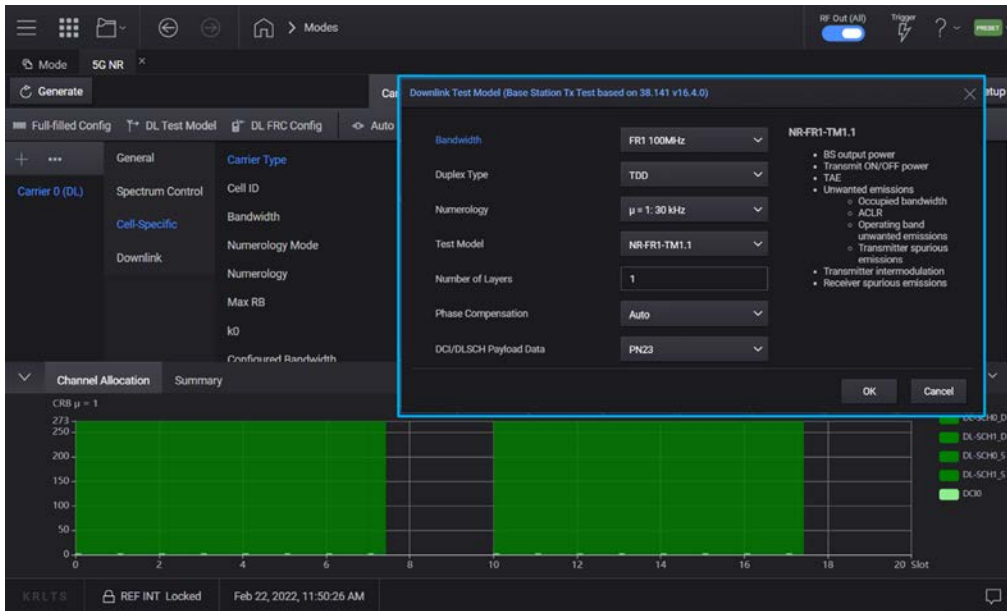

Figure 1. 5G NR downlink TMs configuration using PathWave signal generation software for 5G NR
Figure 1 shows the 5G NR TM1.1 for FR1 unwanted emission, transmitter intermodulation, and receiver spurious emission tests. A graphical display for the entire radio frame is visible in the lower half of the display screen. The x-axis represents the slot based on current numerology, and the y-axis represents the resource block (RB) value. The colors represent the different channel types used in the frame — green represents a downlink shared channel (DL-SCH), and the light green represents downlink control information (DCI). The pre-configured setups help you generate 3GPP 5G NR standard-compliant signals for testing receivers and RF components such as power amplifiers quickly and easily.